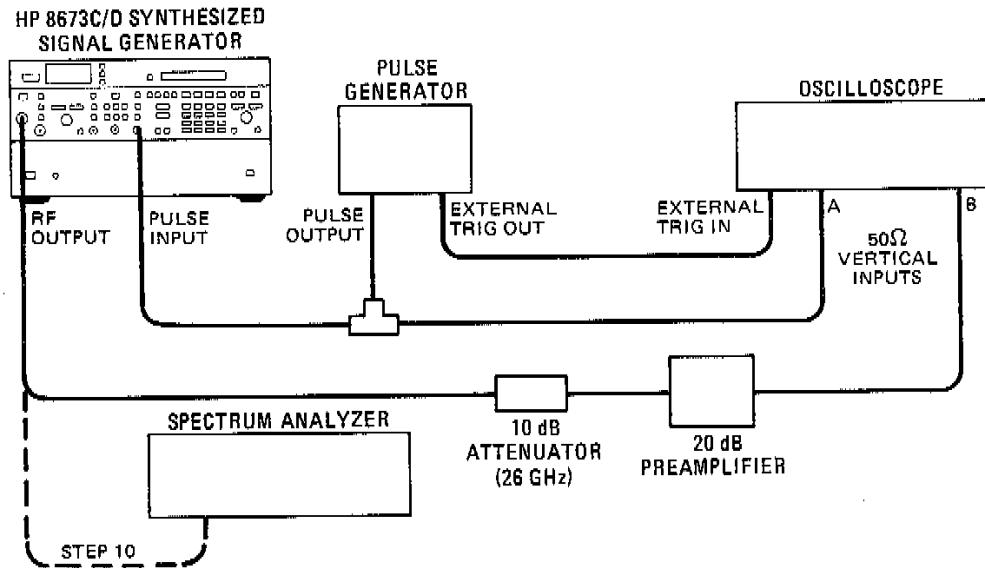

Figure 4-6. Low Frequency Pulse Test Setup
1. Connect equipment as shown in figure 4-6.
10. Disconnect the RF output from the 10 dB attenuator and amplifier. Connect it to the input of the spectrum analyzer as shown in Figure 4-6.